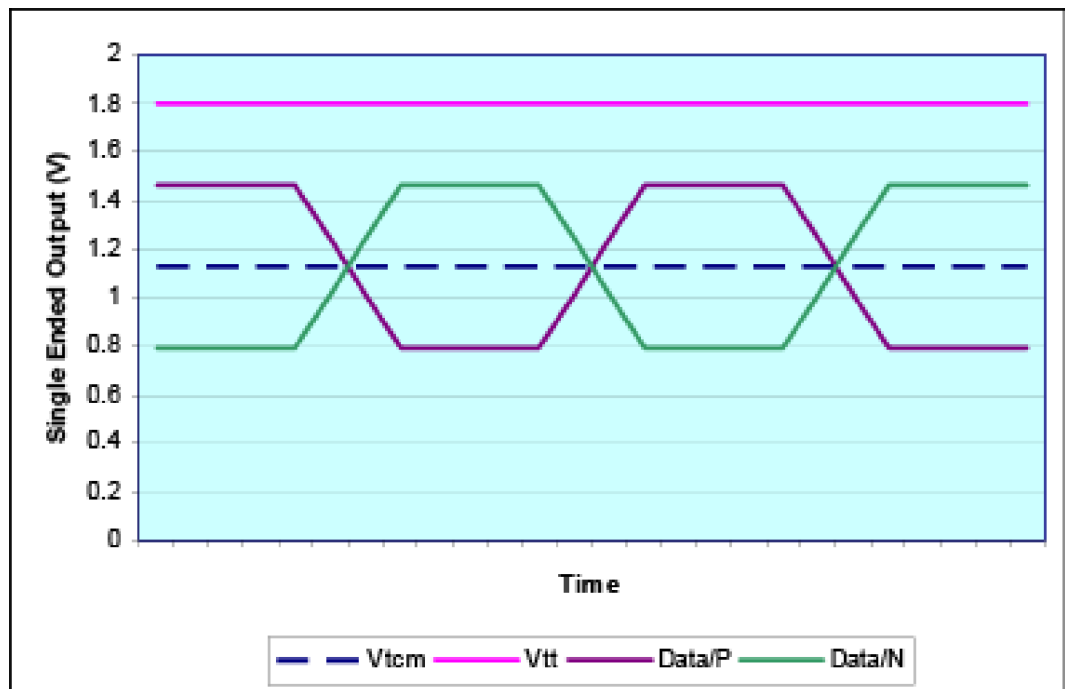

Figure 5 Output Waveforms Resulting from the Example Settings
6. V_{OH} and V_{OL} are computed as 1.4625V and 0.7875V, respectively. The resulting output waveforms would look like those shown in Figure 5.